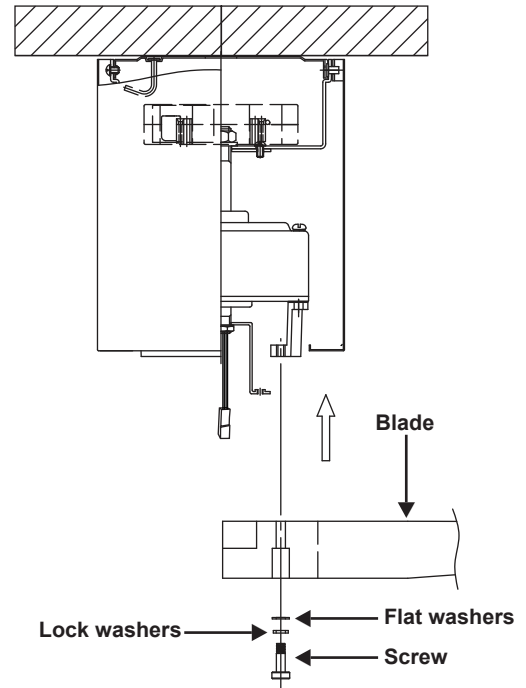

Figure 9
1. Fasten blade to motor using the flat washers, lock washers and screws supplied. (Fig. 9)